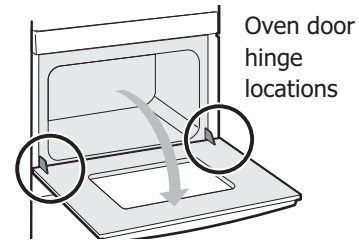

Figure 42: Door hinge location
1. Open oven door completely horizontal with floor (See Figure 42).
3. Fully open the oven door, horizontal with floor See Figure 42).